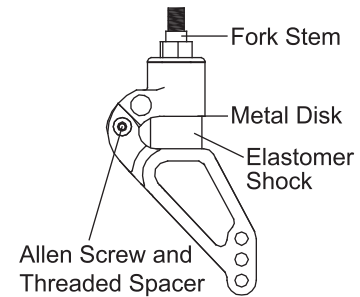

Figure 100
Note: If your chair is equipped with Frog Legs®, you must square the receiver to the level surface because the flat edge of the Frog Legs® fork (see Figure 100 on page 64) is not parallel to the receiver
1. Remove Allen Screws from hinge and push out the threaded spacer. See Figure 100.